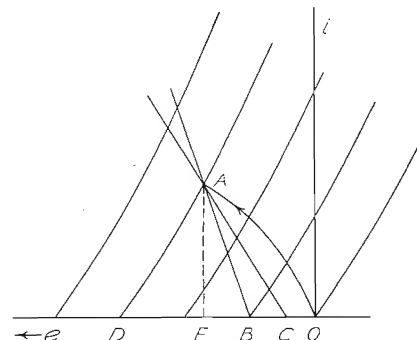

Fig. 6.
In Fig. 6 is shown the construction. The net voltage at the moment under consideration is CD . The voltage $Z_L \Sigma i_{CL}$ is laid off from the origin as OB . Through B is drawn BA to represent the finite operator Z_L . Then AC , which represents the finite operator $(Z + Z_L)$, is slid parallel to itself until its intersection with AB in A is also that of a diode rectification curve AD , such that DC equals the net voltage $(e_c - Z_L \Sigma i_{CL} - Z \Sigma i_C = e_n)$. Then AE equals i_T , DE represents the diode voltage drop $i_T r_d$, and EO equals $(i_T Z_L + Z_L \Sigma i_{CL})$ or e_2 , the voltage across the diode load. In addition, it is evident that Eq. (17) is satisfied. The important point to note is that r_d is here a family of curves, and hence the proper member of the family must be selected. This has been done by drawing Z_L or AB at a distance $BO (= Z_L \Sigma i_{CL})$ from the origin O , so that point E will be distant from O by the amount e_2 , the voltage across the diode load.
Below: Fig. 6. Howard 437.